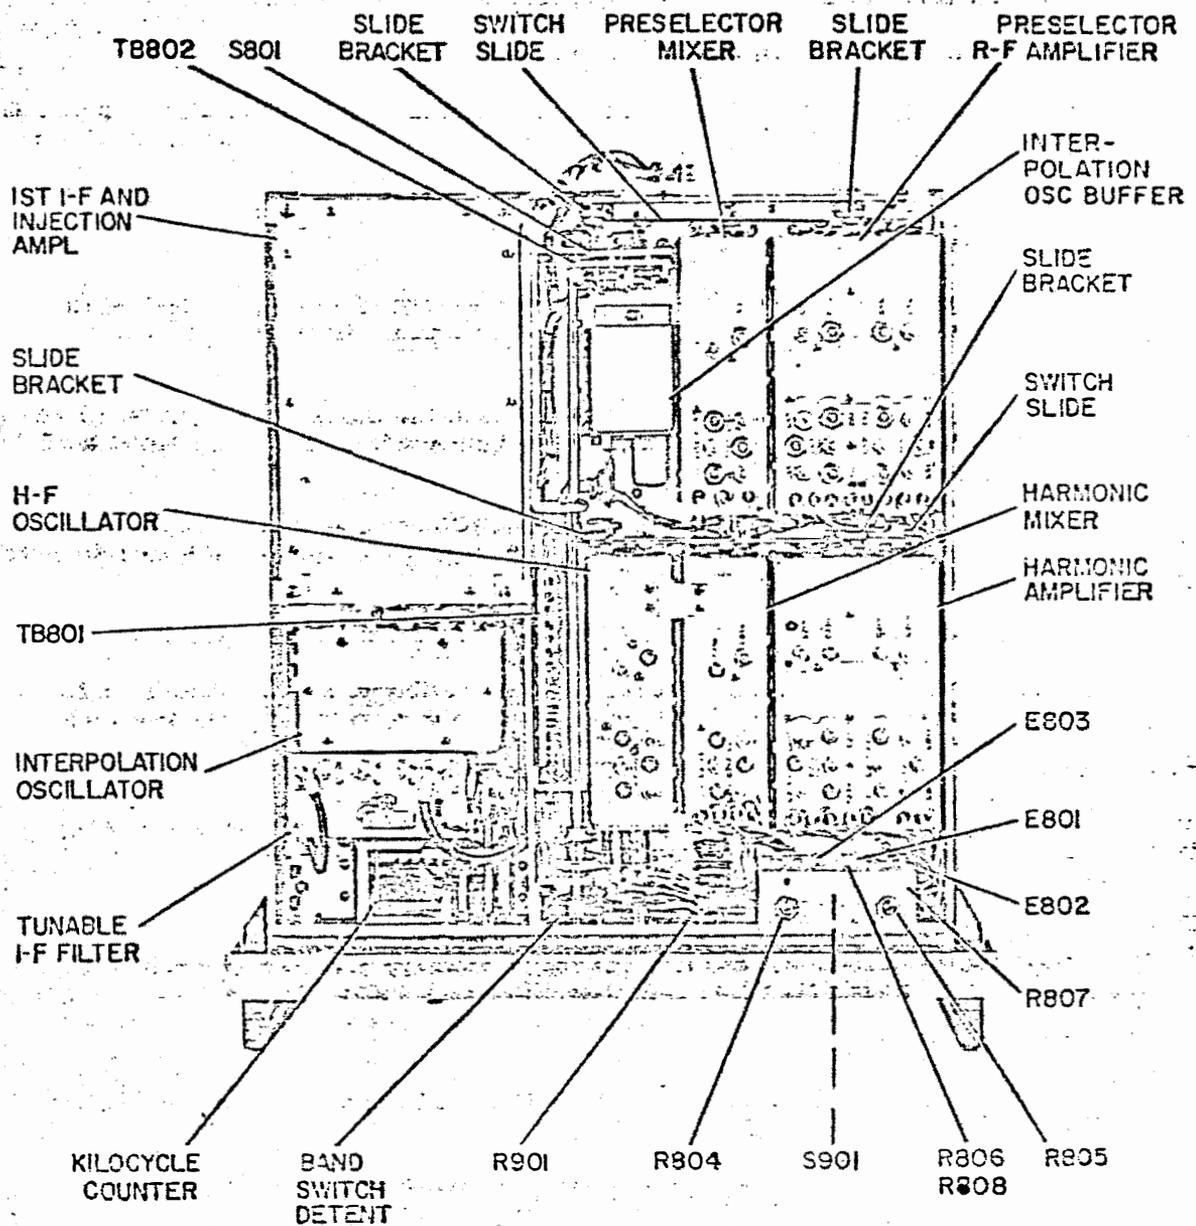

Figure 6-3. Countermeasures Receiver R-1125/FLR, Bottom View, Location of Assemblies and Parts
Step 5. Adjust AGC THRESHOLD control R804 (screwdriver adjustment; see figure 6-3) for an indication of from 0.1 to 0.4 volt (negative) on the multimeter.
Step 5. Adjust I-F AGC control R805 (screwdriver adjustment, see figure 6-3) for a multimeter reading which is one-third of the reading noted in step 3.
(f) REMOVAL OF PRESELECTOR MIXER SUBASSEMBLY. (See figures 6-3, 5-15, 5-16, and 5-17.)
(c) REPLACEMENT OF TUNABLE I-F FILTER ASSEMBLY. (See figures 6-3, 5-24, and 5-25.)